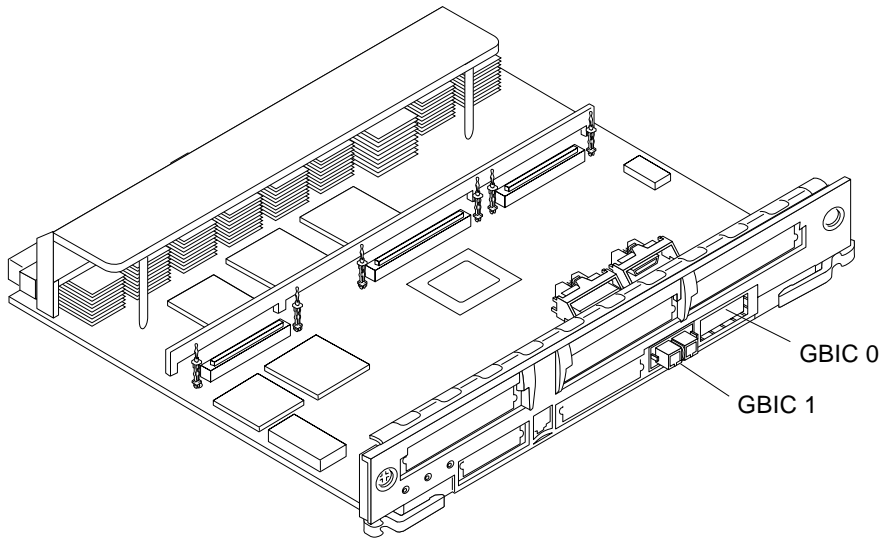
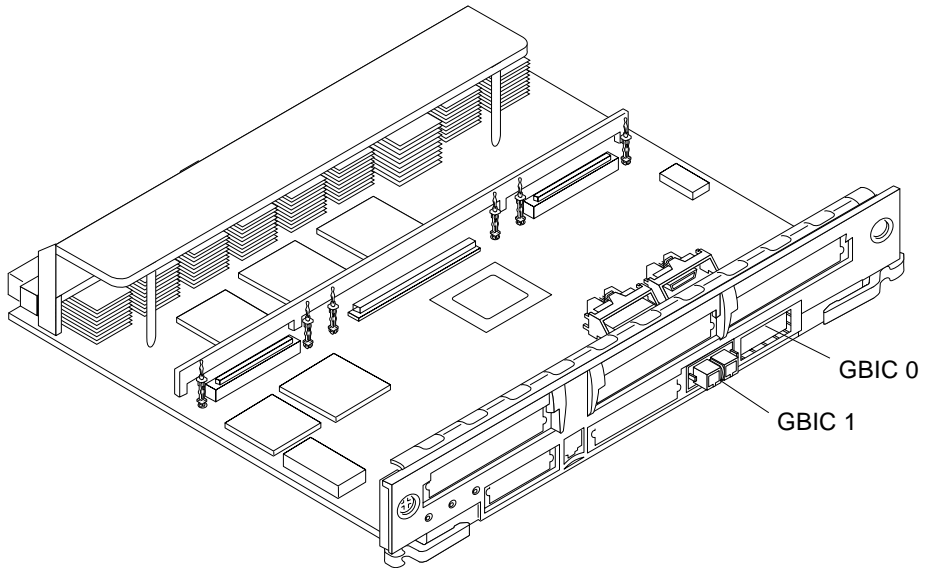

FIGURE 4-17 SBus+ I/O Board GBIC Connector Locations
FIGURE 4-18 Graphics+ I/O Board GBIC Connector Locations
1. Locate the GBIC to be removed (FIGURE 4-17 or FIGURE 4-18).
1. Locate the GBIC slot for installation (FIGURE 4-17 or FIGURE 4-18).